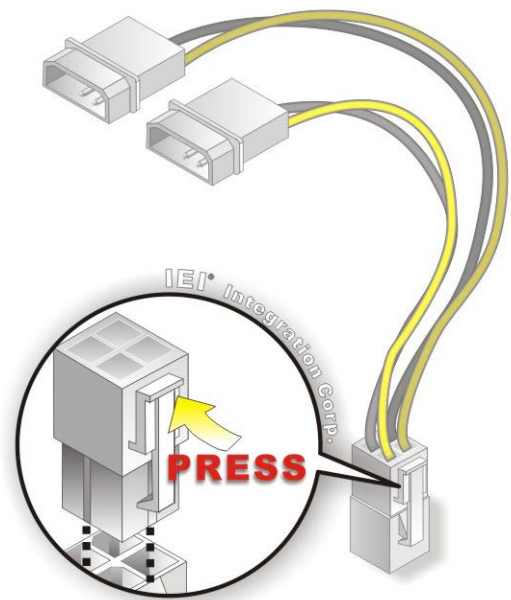

Figure 4-15: Power Cable to Motherboard Connection
- Step 2:** **Connect the Power Cable to the Motherboard.** Connect the 4-pin (2x2) Molex type power cable connector to the power connector on the motherboard. See Figure 4-15.